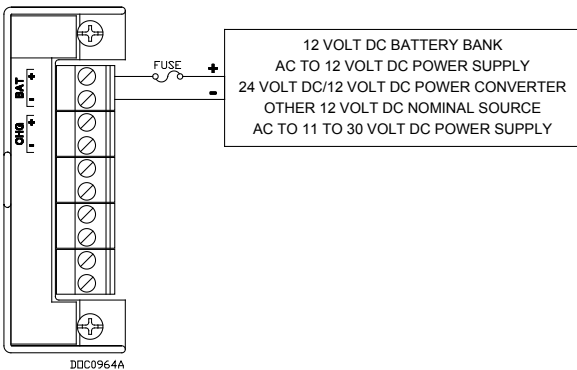

Figure 5. 12 V dc Power Supply and BAT+ / BAT- Wiring
- the 12-volt dc source into the clamp beneath the appropriate BAT+ / BAT– termination screw (see Figure 5) **OR**
- the 24-volt dc source into the clamp beneath the appropriate + / - termination screw. The + terminal should also have a fuse (see Figure 5) **OR**
- the 11-30 volt dc source into the clamp beneath the appropriate +/- termination screws (see Figure 5)